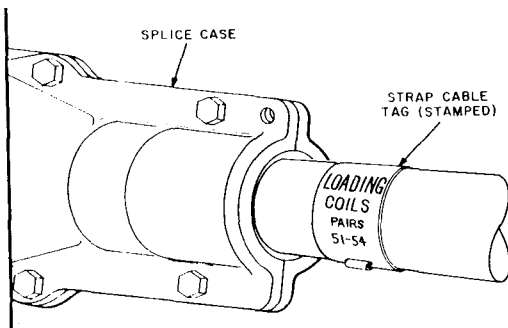

Fig. 4—Strap Cable Tag at Load Coil Case
4.02 Splices containing coil cases should be indicated by a strap cable tag placed on the sheath and stamped as illustrated in Fig. 4.